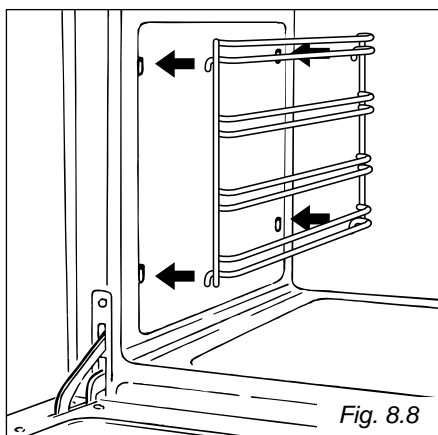

Fig. 8.8
- Fit the side runner frames into the holes on the side walls inside the oven (Fig. 8.8).